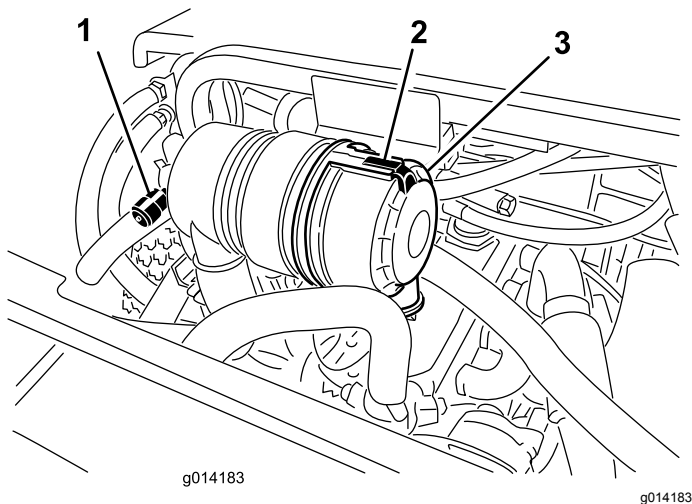

Figure 30
Note: Raise the machine off the floor with a jack and secure it with jack stands to allow better grease migration through both the upper and lower king-pin bushings. You should see grease purging out of both the top and the bottom of the axle casting/bushing assembly areas of all 4 kingpin assemblies (Figure 30).
Service the air-cleaner filter only when the service indicator (Figure 30) requires it. Changing the air filter before it is necessary only increases the chance of dirt entering the engine when you remove the filter.
1. Release the latch securing the air-cleaner cover to the air-cleaner body (Figure 30).